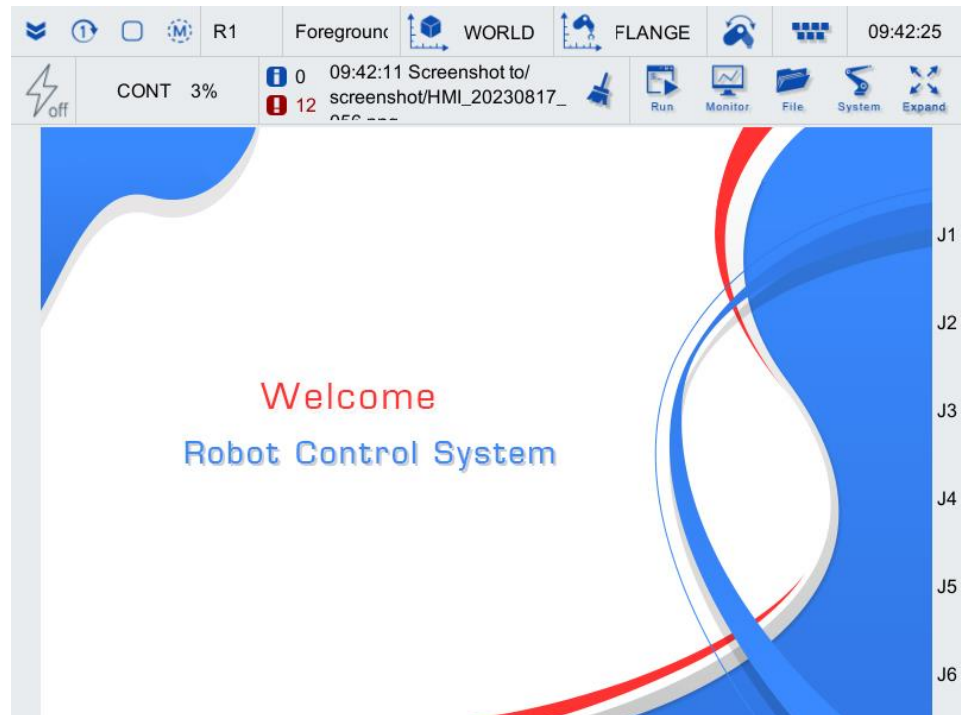

Figure 5-43 Teach pendant main interface
Step1. Log in to the teach pendant and you will see the main interface of the teach pendant as shown in Figure 5-43.